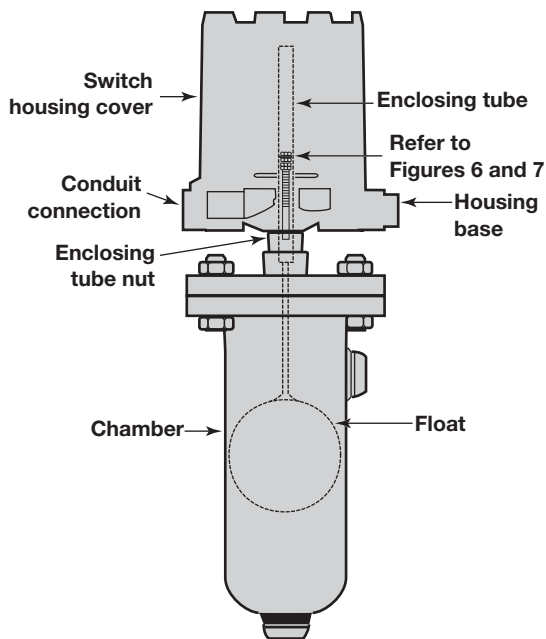

Figure 7
4. Disconnect power supply wires from switch mechanism. Pull wires out of conduit connection opening in housing base. Refer to **Figure 7**.
6. Loosen enclosing tube nut with a $\frac{1}{16}$ " wrench. Unscrew enclosing tube counterclockwise (switch and housing base will rotate also), until it is free. Refer to **Figure 7**.